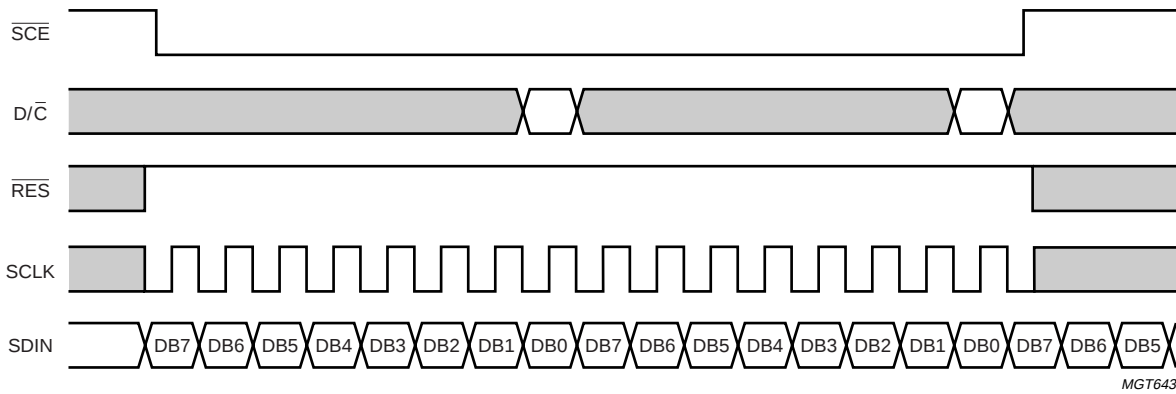

Fig.12 Serial interface enable ($\overline{SCE}$).
- Or the last bit is latched when pad $\overline{SCE}$ goes HIGH (see Fig.12).